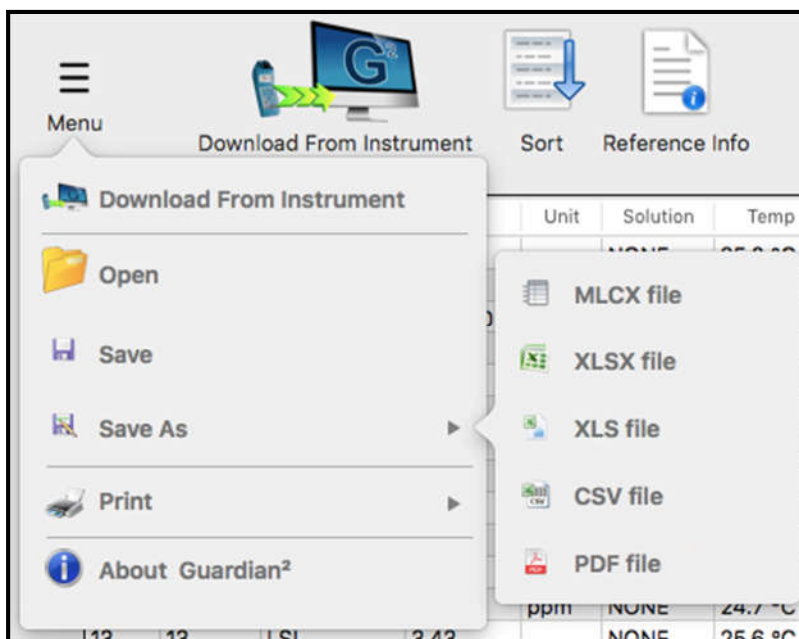

Figure 38
- 1) Select the "**Save As**" command under the active Data Window's Menu Window (Figure 38).